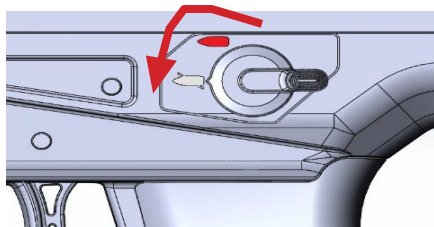

Figure 2: Adjust the Safety Selector to “Safe”
2. Place the WLVRN on “Safe” by rotating the safety selector switch clockwise into the “Safe” position. (Counter-clockwise for left side manipulation) (Figure 2)
1. To load the WLVRN, first ensure it is in a safe environment to do so, observing all the rules of firearm safety, and the safety selector switch is in the "Safe" position (Figure 2) Ensure the cartridges loaded into the magazine match the chambering of the magazine. Ensure the caliber of the magazine also matches the chambering of the conversion kit.